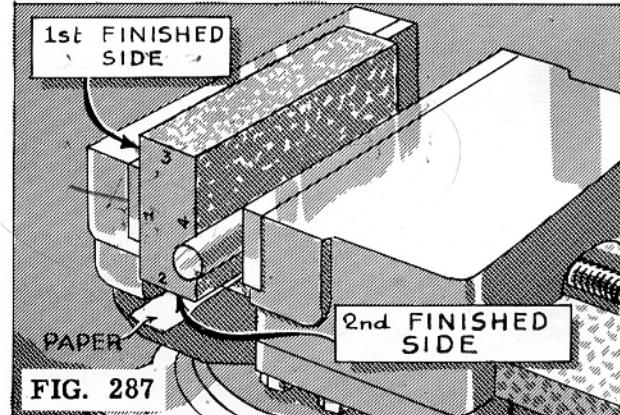

FIG. 287
2. Place the work in the vise. The surface that has just been finished should rest on the bottom of the vise opening, or on parallels if needed. The first side planed should rest against the fixed jaw (Fig. 287).
NOTE: In order to check that work which does not require the use of parallels has been properly seated in the vise, a piece of tissue paper should be placed under each end of the work and allowed to extend so that it can be pulled with the fingers. (Fig. 287) The work has been properly seated when the paper is tight and cannot be withdrawn from under the work.